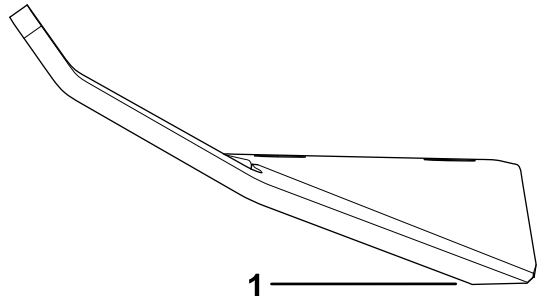

Figure 108
1. Use a file or sharpening tool to sharpen the cutting edge at both ends of the blade assembly (Figure 108).
**Note:** If the blade assembly is not balanced, file some metal off the heavy end of the blade in the sail area only (Figure 108).